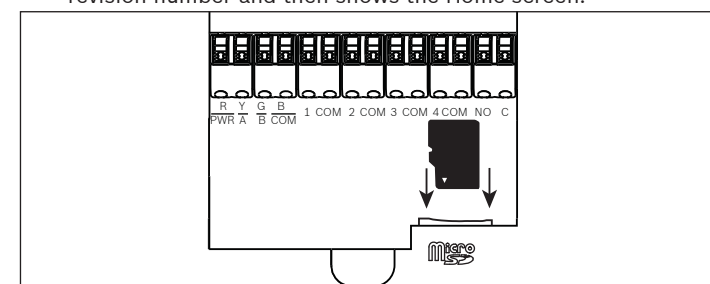

Figure 11.1: Inserting a MicroSD card
4. Slide the MicroSD card into the MicroSD card slot until it clicks into place. Refer to *Figure 11.1*.